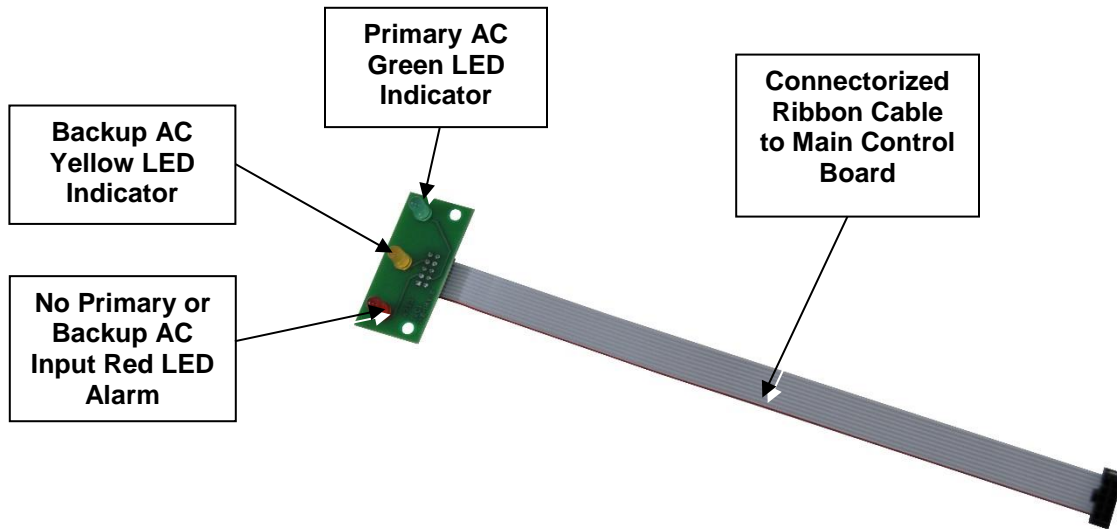

Figure 12: ATS Series Display Board Assembly
2.22 DISPLAY CIRCUIT BOARD ASSEMBLY (See Figure 12)